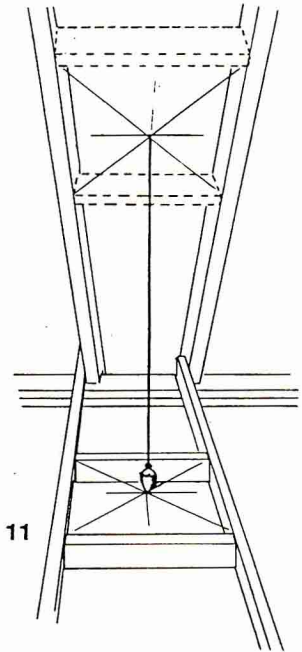

FIGURE 11
3. Hold a plumb bob from the underside of the roof to determine where the opening in the roof should be. Cut and frame the roof opening to maintain proper 2" clearances (Figure 11).